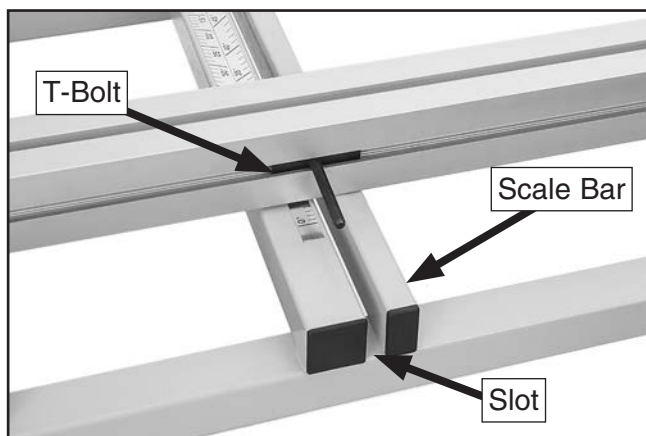

Figure 46. T-bolt installed in middle of crosscut table T-slot.
41. Slide M8-1.25 x 60 T-bolt into bottom T-slot of crosscut fence (see **Figure 46**).
46. Align T-slot bolt with slot in pre-installed scale bar (see **Figure 46**).